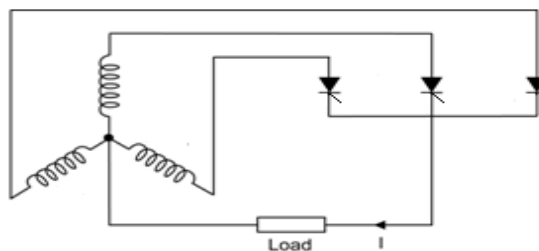
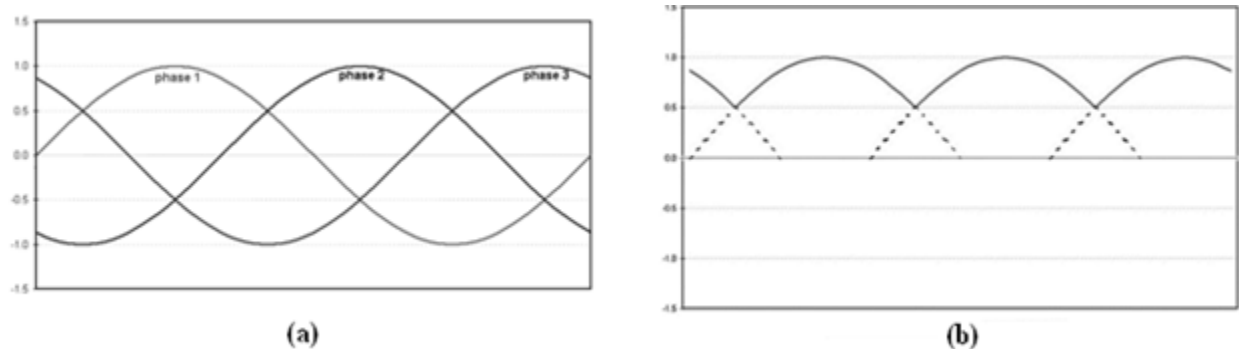

Figure 6.2: 3-Phase Half Wave Controlled Rectifi
Figure 6.3: (a) 3-Phase Waveform (b) 3-Phase Half Wave Controlled Waveform ( $\alpha = 0$ )
3-phase HWCR can be assembled as shown in the figure 6.2. Wye(Y) connection is needed for 3-phase HWCR. Each phase contain one SCR and cathodes of all SCR are tied to one terminal of load and its other terminal is connected to neutral (N). Due to the natural characteristics of 3-phase voltages each phase will remain high for the span of  $120^\circ$ ; consequently that SCR will be forward bias and positive pulse on its gate will determine the conduction of current. Current will flow from phase (which is high at that moment), load and back to the neutral. It means three cycles will be obtained at load in the interval of  $360^\circ$ . The waveform of 3-phase half wave controlled rectifier output is shown in figure 6.3.